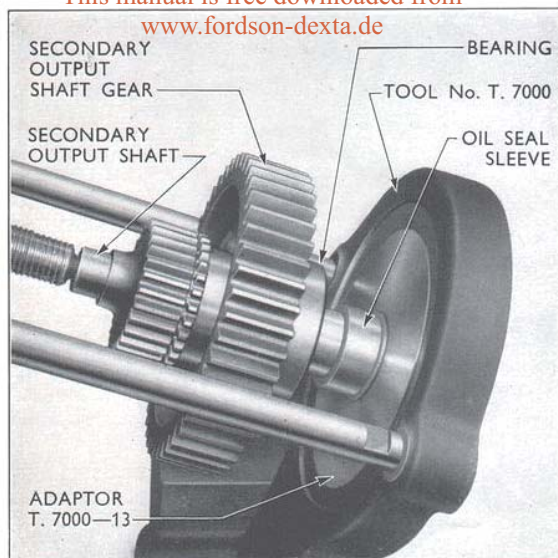

Fig. 14
- (v) Remove the shaft assembly from the tool, locate the oil seal sleeve on the shaft (with the chamfered end of the sleeve facing away from the bearing) and replace this assembly in the Main Tool. (See Fig. 14.)